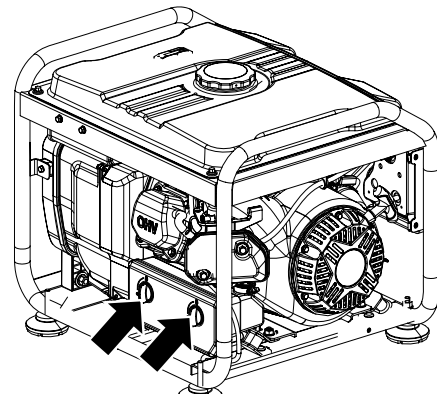

Figure 12: Remove air filter
2. Unscrew the two bolts on air filter cover and set aside (see Figure 12).